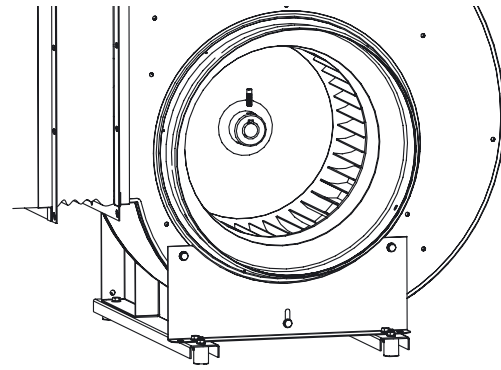

Fig. 4.10 GTLF-1-020...050 Remove the hub securing and the impeller from the motor shaft.
- Remove the hub securing screw (Figs. 4.10 and 4.11).